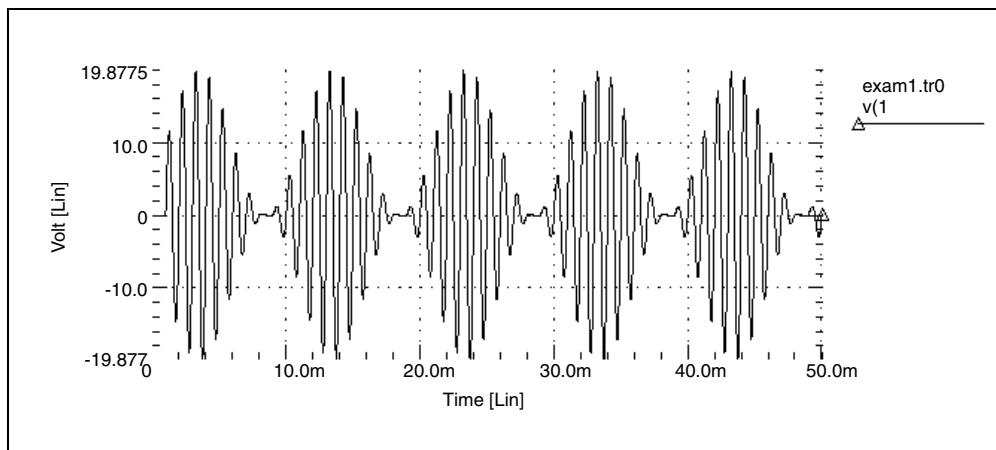
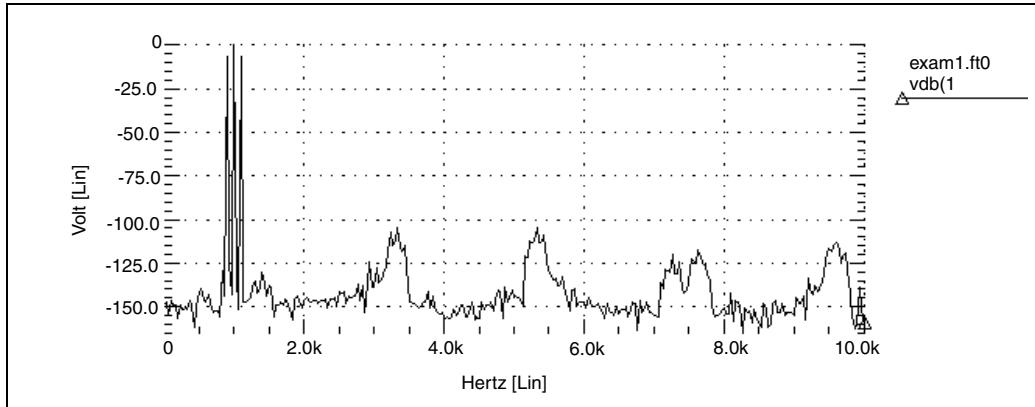

Figure 63 AM Modulation
Figure 64 AM Modulation Spectrum
Figure 63 and Figure 64 on page 550 display the results.
- Figure 63 shows the time-domain curve for node 1.
- Figure 64 shows the frequency-domain components, for the magnitude of node 1.